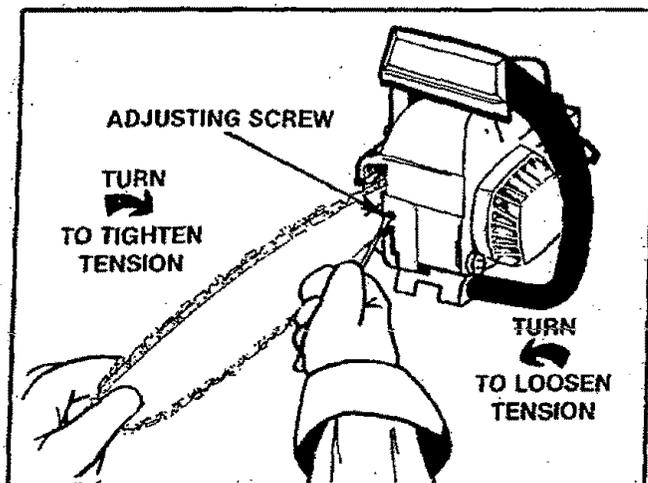

Figure 10
1. Hold the tip of the Guide Bar up and turn the Adjusting Screw clockwise just until the chain does not sag beneath the Guide Bar. Figure 10.